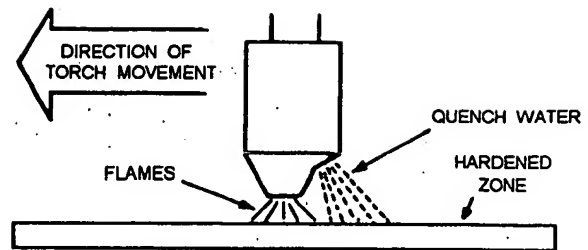

Figure 2-2.—Progressive hardening.
**STRAIGHT-LINE PROGRESSIVE METHOD.**— With the straight-line progressive method, the torch travels along the surface, treating a strip that is about the same width as the torch tip. To harden wider areas, you move the torch and repeat the process. Figure 2-2 is an example of progressive hardening.